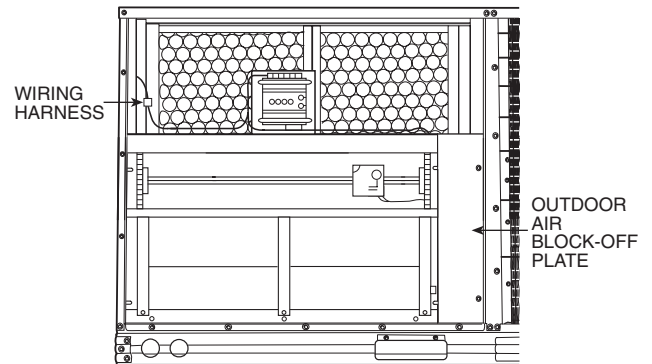

Fig. 9 — Vertical EconoMiSer Installed in 3 to 6 Ton Unit
8. Install the outdoor air block-off plate, then secure the EconoMiSer with the screws provided. See Fig. 9 and 10.